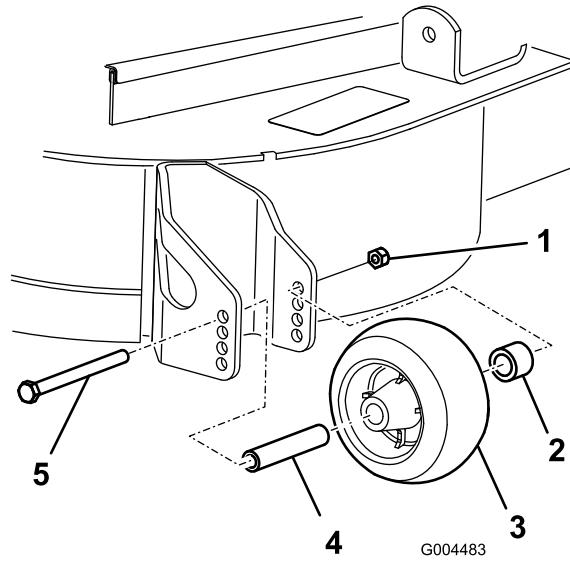

Figure 26
3. After adjusting the height-of-cut, adjust the rollers by removing the flange nut, bushing, spacer, and bolt (Figure 26).
5. Install the flange nut, bushing, spacer, and bolt. Torque to 40-45 ft-lb (54-61 N·m) (Figure 26).